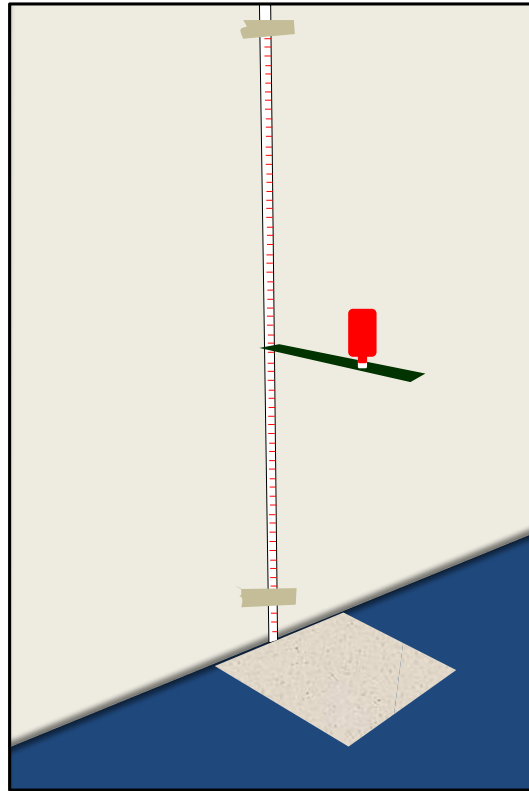

Figure 6: Set up for the ruler and transfer pipette.
8. Holding the transfer pipette vertically, line up the tip of the pipette with the 15 cm mark. Use the ruler as a guide to ensure the pipette is 15 cm above the cardstock and positioned over the cardstock, so that when it is dropped, it hits the targeted area (Figure 6).
20. Use the transfer pipette to remove the simulated blood sample from the bottle. Holding the transfer pipette vertically, line up the tip of the pipette with the 15 cm mark. Use the ruler as a guide to ensure the dropper is 15 cm above the cardstock and positioned over the cardstock so that when it is dropped it hits the targeted area (Figure 6).
32. With your other hand, hold the transfer pipette vertically, such that the tip of the pipette is 15 cm above the cardstock. Use the ruler as a guide to ensure the dropper is 15 cm above the cardstock and positioned over the center of the cardstock so that when it is dropped it hits the targeted area (Figure 6).